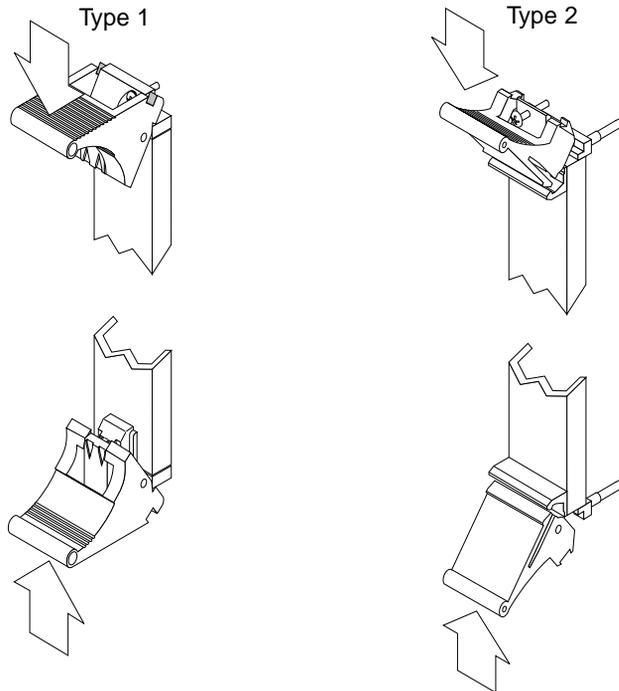

FIGURE 2-10 Closing the Ejection Levers (Two Types of Levers)
8. Close the ejection levers by pushing the levers in toward the card until you hear each lever click into place (FIGURE 2-10).